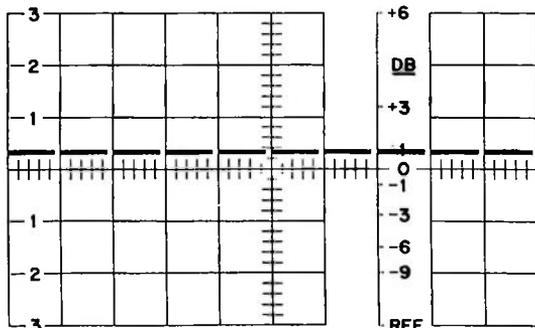

FIGURE 8. ONE TIME MARK PER CM
- Switch AMPLIFIER GAIN to INT X5. (Other controls remain the same). Set EXPAND ADJUST, R-215 on the lower board, for 1 cm per marker, as shown in Figure 8.
- Switch TIME MULT to X1. Other controls remain as in the above step. Now adjust SWEEP CALIB., a screwdriver control on the control panel of the lower board, for 1 cm per marker, as shown in Figure 8.